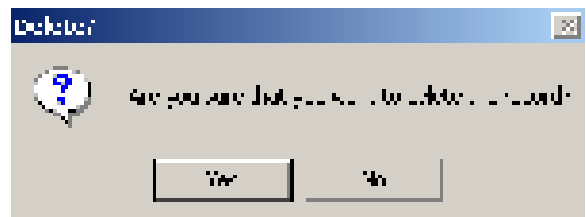

Figure 8.13 Delete confirmation message.
2. Click Delete. A confirmation message (Figure 8.13) is displayed, asking you to confirm the deletion.